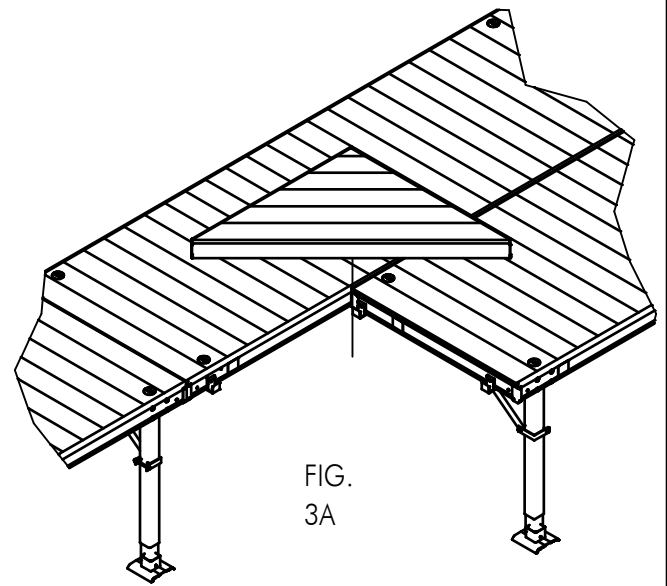
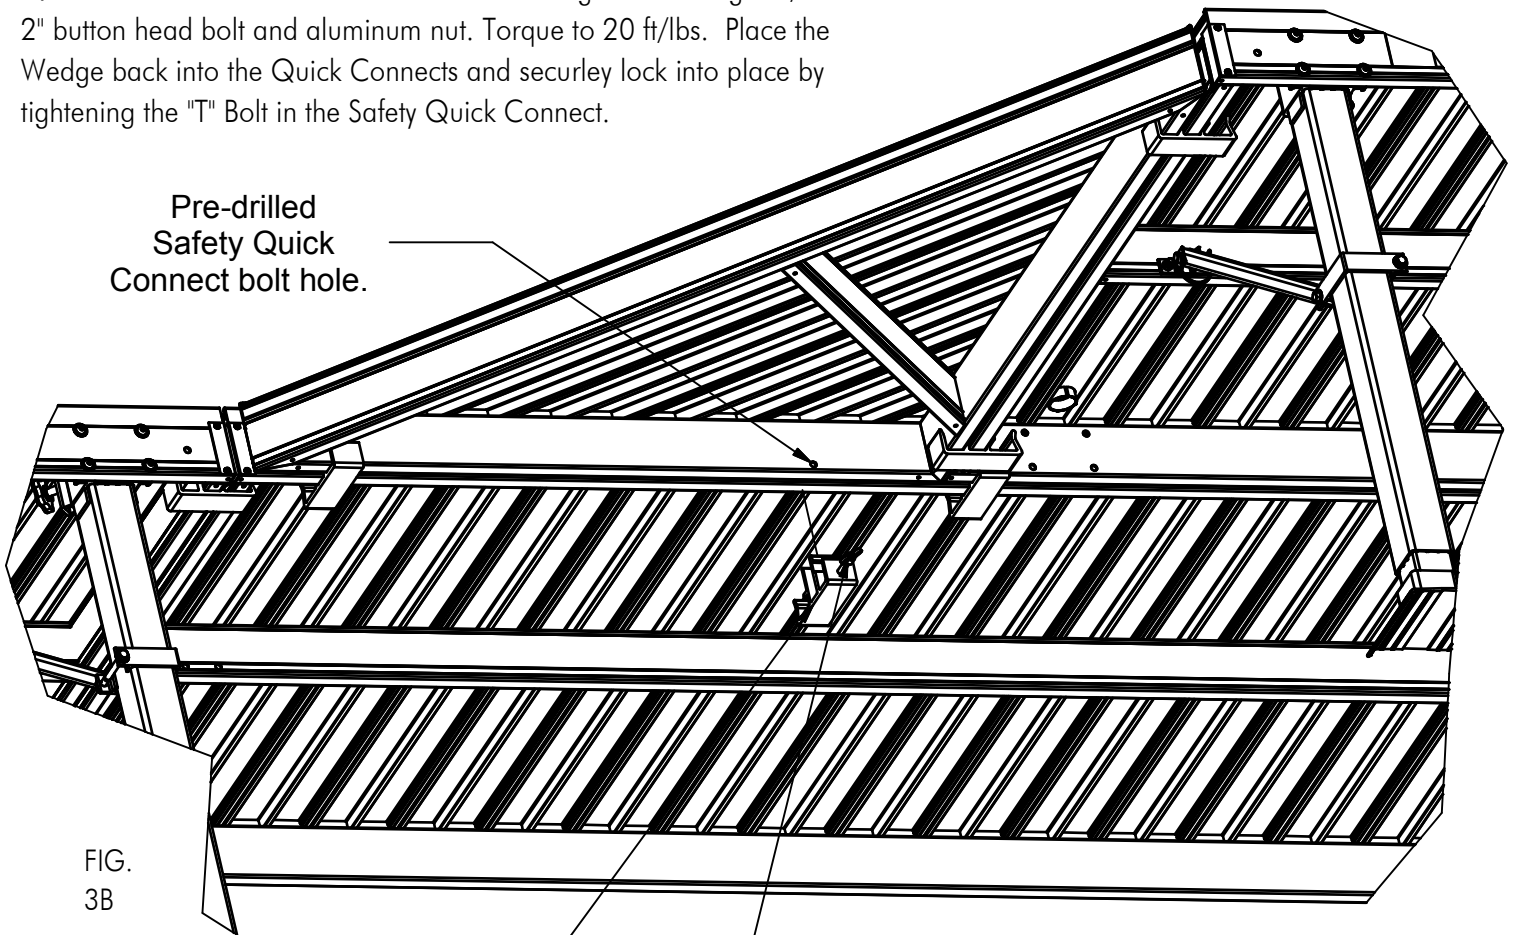
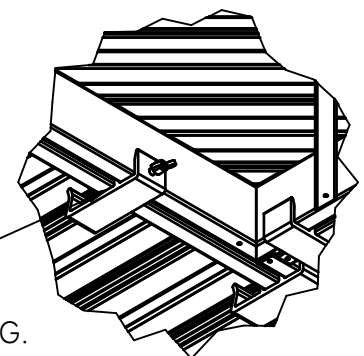

FIG. 3A
FIG. 3B
FIG. 3C
- Attach a Safety Quick Connect to the Wedge frame. The position is predetermined by the bolt hole in the inside of the Wedge. Start by placing the Wedge in the three installed Quick Connects as shown in figure 3A. Slide the Safety Quick Connect up onto the Wedge and dock frame as shown in figure 3B and thread the "T" Bolt into the bolt hole located on the inside of the wedge making sure that it passes through the hole in the Wedge and that the Safety Quick Connect is tight against the bottom of the frame. Mark the location for the Safety Quick Connect by tracing the outer edges on the bottom of the dock frame. Refer to figure 3C for detail. Remove the Wedge from the Quick Connects. Place the connect between the marks and drill a 13/32" bolt hole using the Safety Quick Connect as a guide. Attach the Safety Quick Connect to the dock frame as shown in figure 3C using a 3/8 x 2" button head bolt and aluminum nut. Torque to 20 ft/lbs. Place the Wedge back into the Quick Connects and securley lock into place by tightening the "T" Bolt in the Safety Quick Connect.